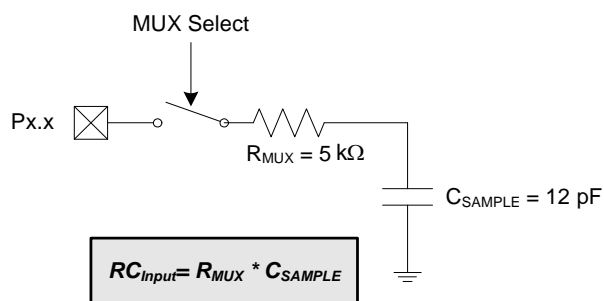

Figure 5.6. ADC0 Equivalent Input Circuits
Figure 5.6 shows the equivalent ADC0 input circuit. The required ADC0 settling time for a given settling accuracy (SA) may be approximated by Equation 5.1. When measuring V_{DD} with respect to GND, R_{TOTAL} reduces to R_{MUX} . See Table 5.3 and Table 5.4 for ADC0 minimum settling time requirements.